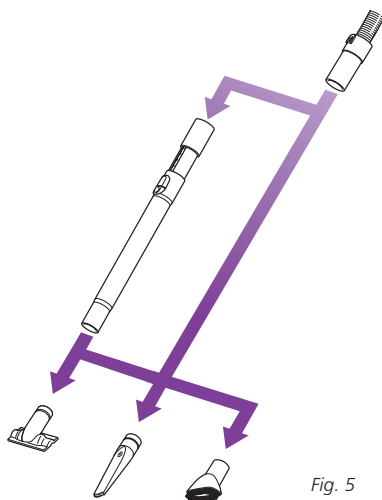

Fig. 5
- 6 Insert the telescopic tube to the flexible hose. Push it in until it is secure. (fig. 5)
- 7 Attach the desired accessory to the end of the flexible hose or telescopic tube by pushing it in until it is tightly secured. (fig. 5)